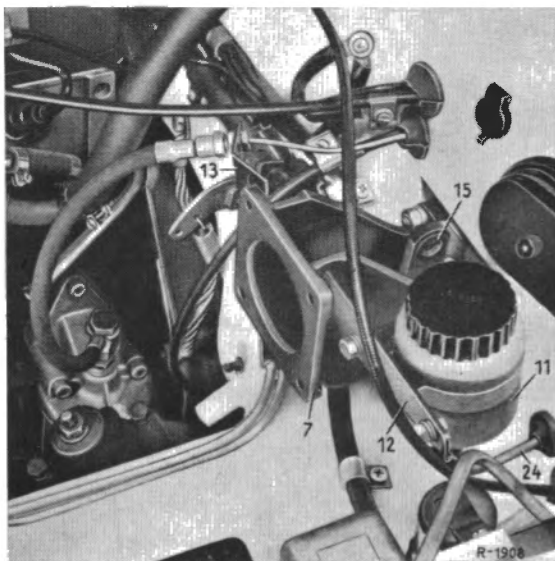

Fig. 29-2/11
6. Put on the washer (24) and secure the collar bolt by means of the cotter pin (Fig. 29-2/10).